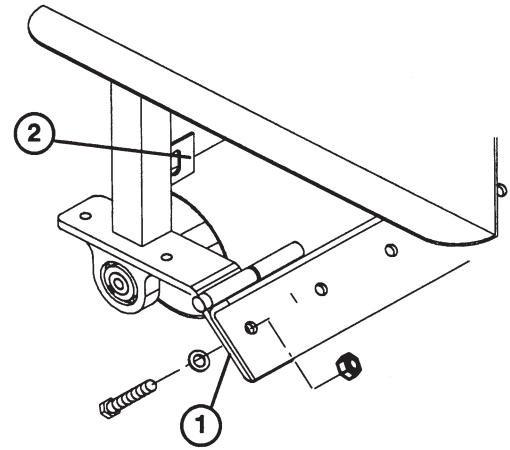

Figure 14
- A. Remove the nuts securing each end of the turf finger bracket to the roller legs (Fig. 14).
1. Loosen the fasteners securing each end of the scraper to the roller scraper tab (Fig. 14).